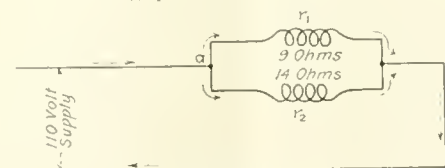

FIG. 2. PARALLEL OR DIVIDED CIRCUITS.
An illustration of the parallel or divided circuits is shown by Fig. 2. The current on reaching point "a" divides, a certain
greater the less the resistance. For example, if the resistance of a circuit is 2 ohms the conductance is $\frac{1}{2}$. If the resistance is $\frac{1}{4}$ the conductance is 4. In the case of the circuit, Fig. 2, the resistances are r_1 and r_2 , so that the conductances are $\frac{1}{r_1}$ and $\frac{1}{r_2}$.
6. What is the joint resistance? Fig. 2. Also, what current will flow from the source of supply, and how will it divide?